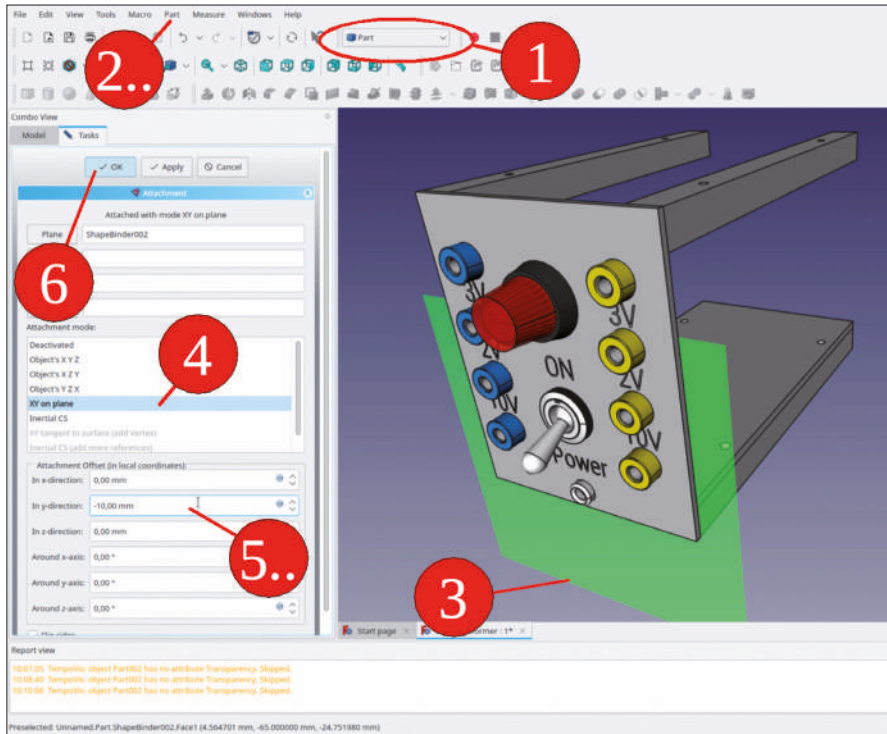
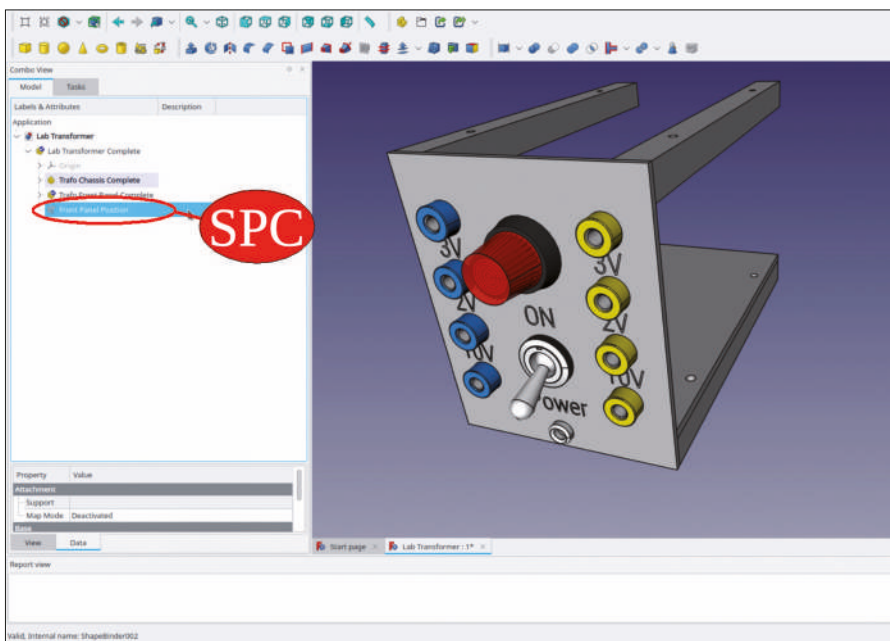

Figure 9-80
Figure 9-81
10. Return to the 'Tasks' tab and select 'XY on plane' as the attachment mode. (Figure 9-80). For the attachment offset Y, enter 10 mm and close the task window with the OK button (Figure 9-81). Hide the shape binder 'Position Front Panel'.